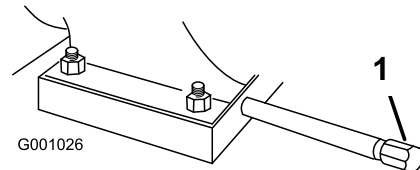

Figure 40
- Clean the area around the oil-drain cap (Figure 40).